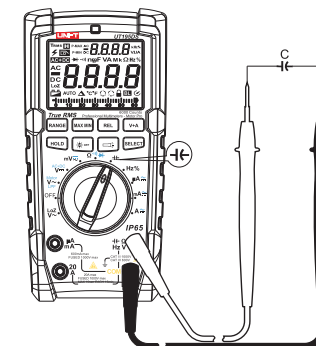

Figure 5
8. Capacitance Measurement (See Figure 5)